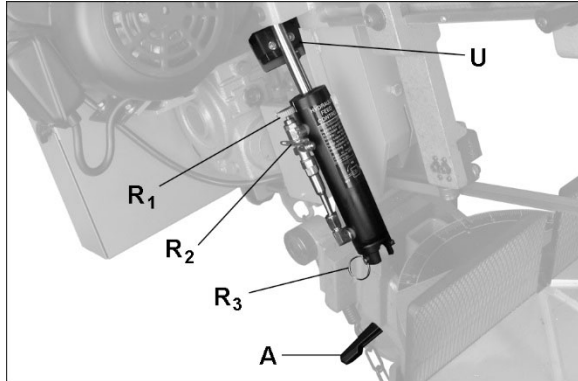

Figure 7-11: feed rate adjustment
To increase feed rate, turn dial (R_1 , Figure 7-11) counterclockwise. To decrease, turn clockwise.
3. Pull linch pin (R₃, Figure 7-11) out of cylinder, and raise bow to vertical position. Make sure swivel locking handle (A, Figure 7-11) does not obstruct bow positioning.
- If saw completes cut but blade continues moving, adjust limit switch bracket (U, Figure 7-11) downward.
- If blade stops before cut is complete, adjust limit switch bracket (U, Figure 7-11) upward.